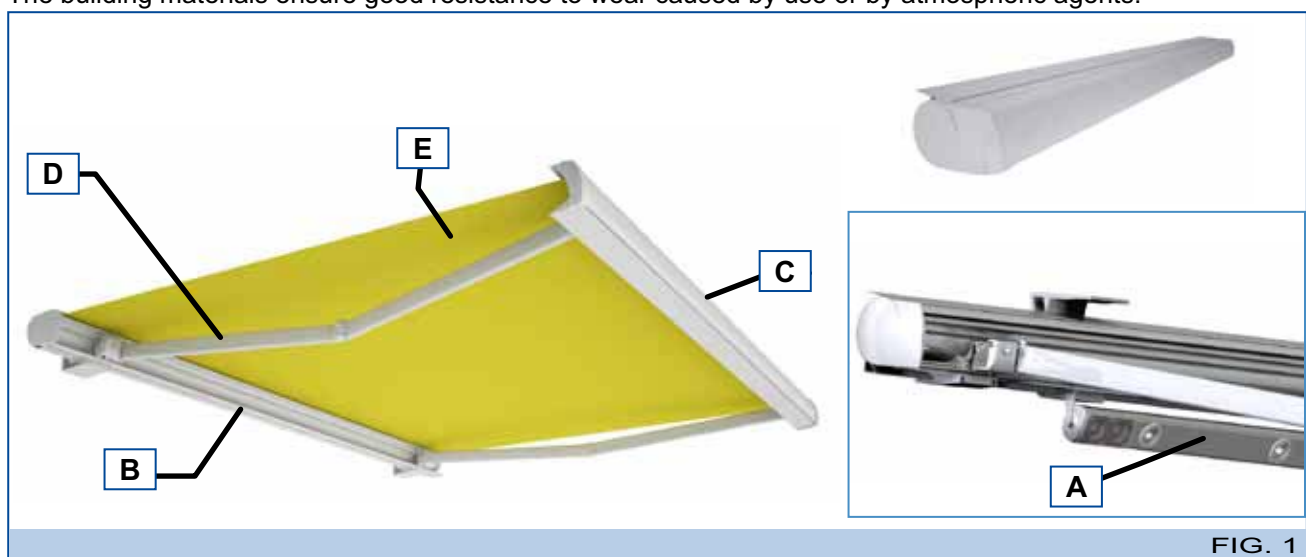

FIG. 1
The **Venezia** sun awning with extensible arms can be installed either on a wall or ceiling, with manual or motorized operation. In the latter case, on request it is possible to install the wind sensor, the rain gauge, the twilight sensor and the emergency override. A lighting kit is also available on request (A - Fig. 1).
- **Metallic structure:** this is the load bearing frame which contains the various mechanisms for opening and closing the awning. It comprises a box for full retraction of the unit (B - Fig. 1), a cassette profile (C - Fig. 1), mechanical extensible arms (D - Fig. 1) equipped with sheathed wires or a stainless steel chain and a rewinder tube.
- **Canvas (E - Fig. 1):** to cover and protect the awning.